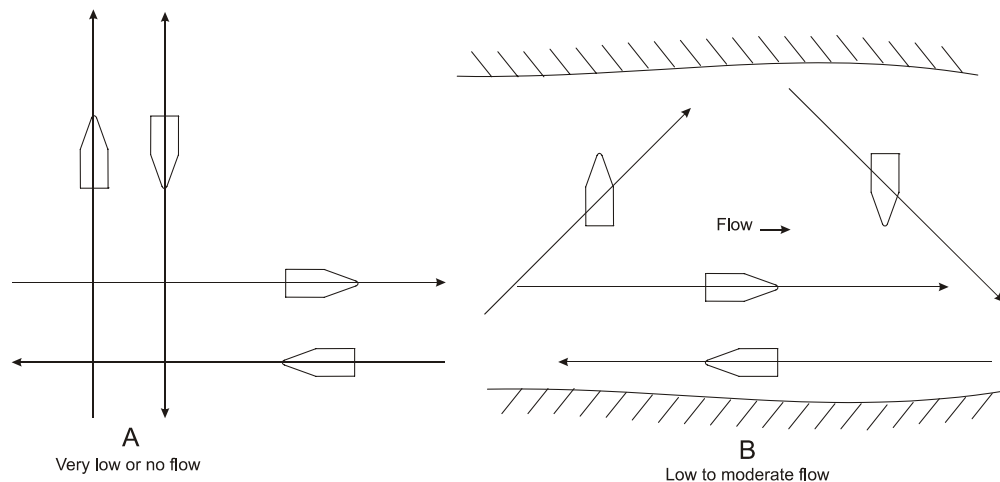

Figure 27. Reciprocal Constant Heading Tracks for Determining Magnetic Variation
- g. Drive a straight track with constant heading (accelerate slowly and maintain a slow steady speed) for at least 200 meters (the longer the course the better) as shown in Figure 27. Monitor the heading display in the **Standard Tabular** view, and adjust your course to stay on a constant heading (not a constant course).
- i. Drive a track along the opposite heading direction as shown in Figure 27, page 58. Press **F5** to start recording.